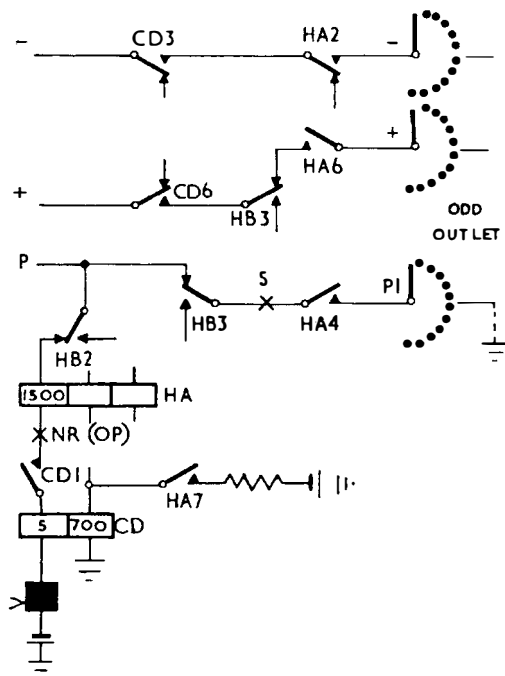

FIG. 9. THROUGH CONDITIONS - ODD OUTLET.
**3.13 THROUGH CONDITIONS.** Figs. 9 and 10 show the respective through conditions when switched to an odd or an even outlet. In each case, one of the switching relays (HA or HB) is held operated on its 1500 ohm winding by earth fed back on the private wire from the selector connected to the seized outlet. Contacts of the operated switching relay hold the 700 ohm winding.